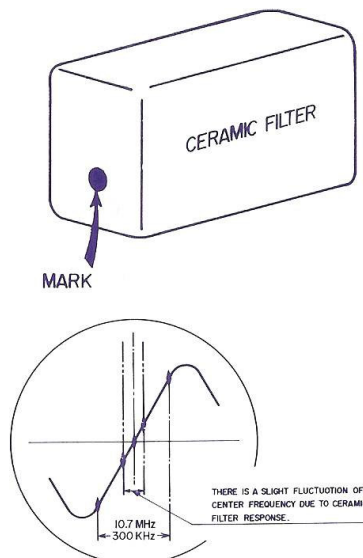

Fig. 5
(2) Adjustments
- b) Adjust the upper and lower cores of T-801 to obtain the waveform shown in Fig. 5. Adjust to maximum amplitude and proper linearity between ± 150 kHz markers.